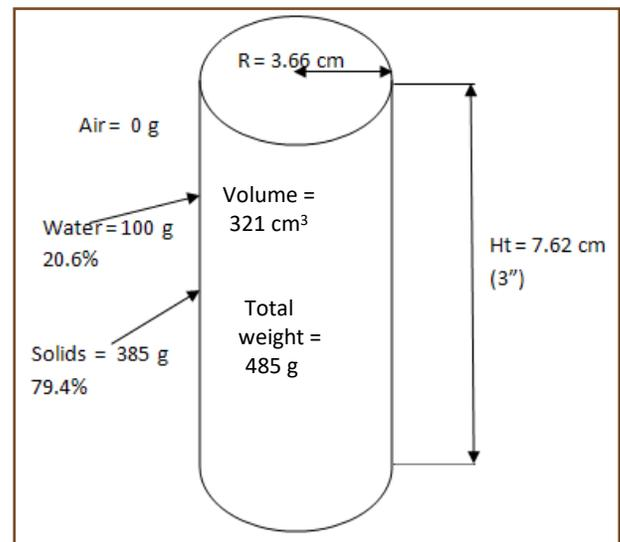

Figure 11.—Example soil core dimensions, volume, and weight, by component.
*Soil bulk density = [(a - b) ÷ (1 + h)] ÷ volume of soil core (volume of soil core = 321 cm³ for 3-inch core, 2 inches from top of soil to top of ring; refer to volume calculations on following page and to figure 11).
Volume of soil core (cm³) (see figure 11): $\pi r^2 \times \text{height}$